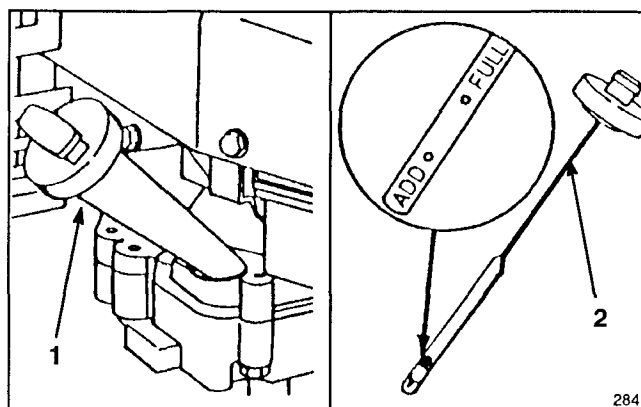

Figure 5
FILL CRANKCASE WITH OIL (Fig. 5)
Fill crankcase with SAE 30 oil until oil level reaches FULL mark on dipstick as shown in Figure 5. The maximum crankcase capacity is 25 ounces (0.75 liters) of oil. Use of multi-viscosity oils (10W30, etc.) above 40° F (4° C) will result in high oil consumption and possible engine damage. Use any high quality detergent oil having the American Petroleum Institute (API) "service classification" – SE, SF or SG.
1. **CHECK OIL LEVEL**—Maintain oil level between ADD and FULL marks as shown on dipstick (Fig. 5).